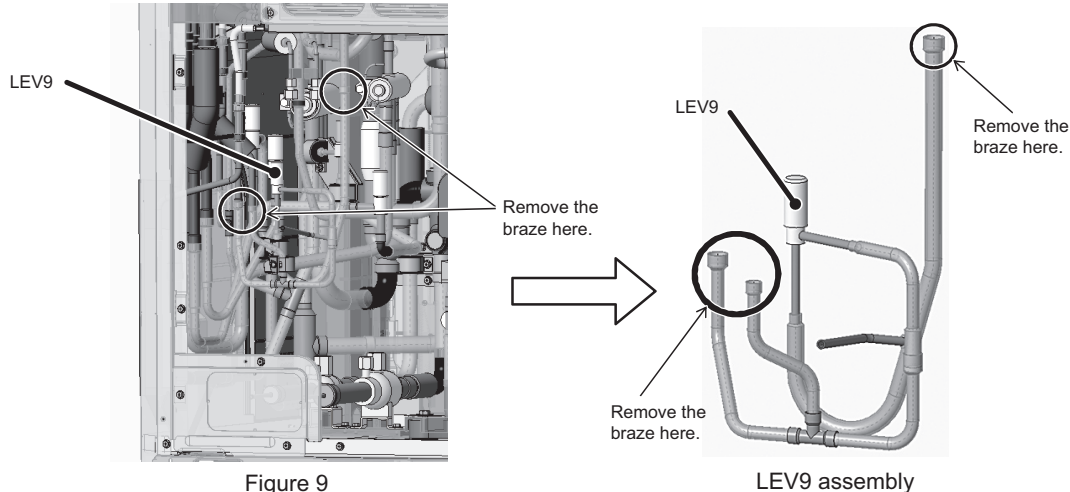

Figure 9
(9) Remove the braze at the three areas circled in the figure to remove LEV9 assembly. (See Figure 9.)